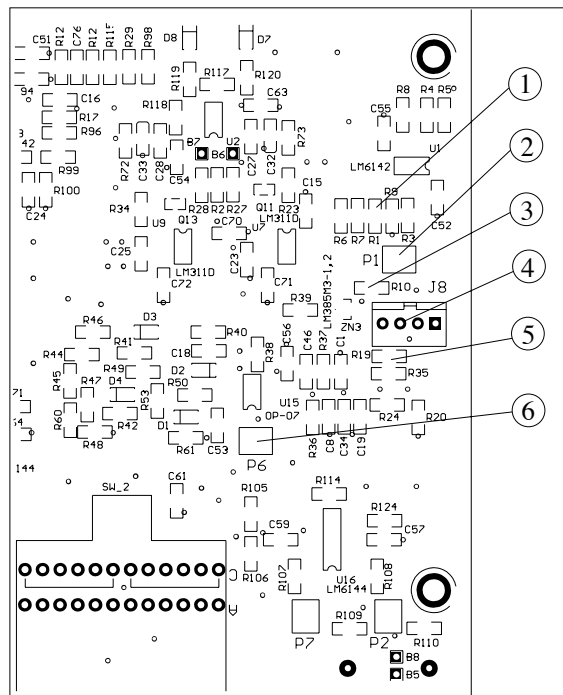

Figure 7.11.: TCU main board (zoom II).
4. Sensing level and range adjustment (refer to figure 7.11)
- a) Replace the cable connected to **J8** (4) with the  $100\pm 1\ \Omega$  resistor. *Note:* the precision (gold band on the resistor) is important. Connect one side of the resistor to pins 1 and 2, the other side to pins 3 and 4.
- b) Measure the voltage on **Zn3/R10** (3): the value should be  $-V = 1.22$  to  $1.25V$ .
- c) Measure the voltage at the intersection of **R19/R35** (5): the value should be  $V=100mV$ , adjustable with the **P1** (2)) knob.
*Note:* If the range is too small, replace the resistor **R1** (1) =  $1.3k\Omega$  with  $1.4k\Omega$ .
- d) Set the selector (9) to display **Real °C**.
- e) Adjust the trimmer **P6** (6) in order to obtain the value of **000 °C** on the screen (8).
- f) Vary the Temperature Reference by using the **Set Temperature** 5 turns knob (7) located on the front panel. The range displayed should be **-074 to + 074**.